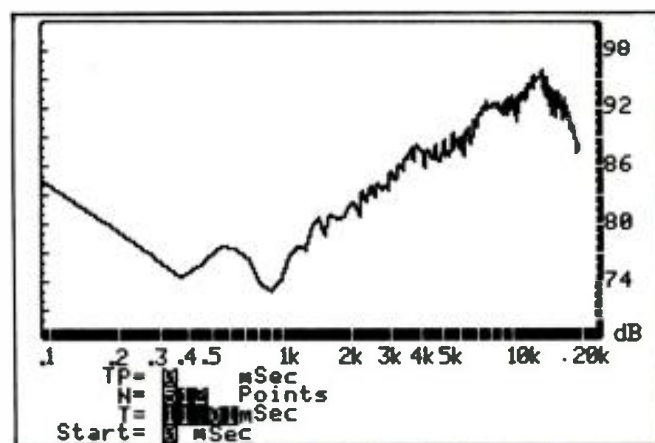
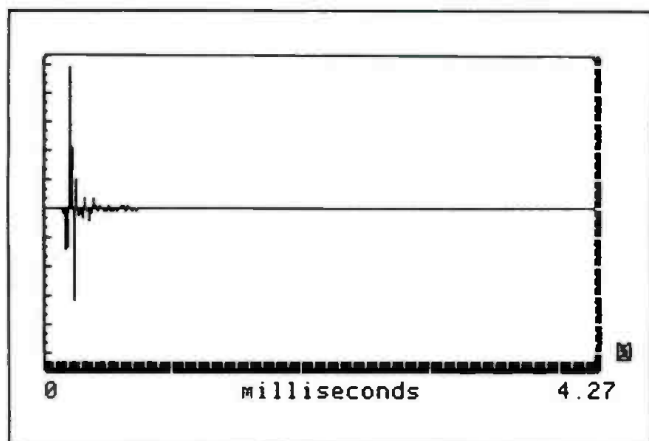

Figure 6. Tweeter response.
Figure 7. Tweeter impulse response.
Several PVDF transducers have been selected for demonstration and evaluation: a tweeter, vibration pick-up, and a microphone. The tweeter is constructed from 126cm(2) of 28um film, formed into a cylinder, and clamped at the top and bottom. The radiation pattern exhibited from this configuration is 360° horizontal by 120° vertical. The frequency response throughout these coverage angles is consistent and is shown in *Figure 6*. The tweeter's impulse response is shown in *Figure 7*; minimal resonance is